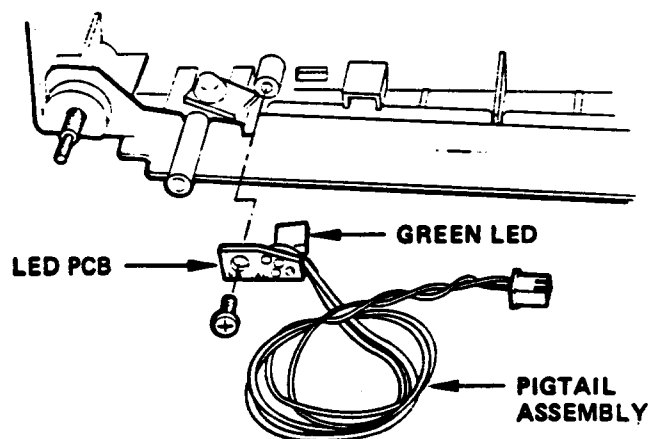

Figure 2-10. Removing the Green LED On/Off Light
2. Remove the screw that secures the small PCB, green LED, and pigtail assembly to the Bezel (refer to Figure 2-10).